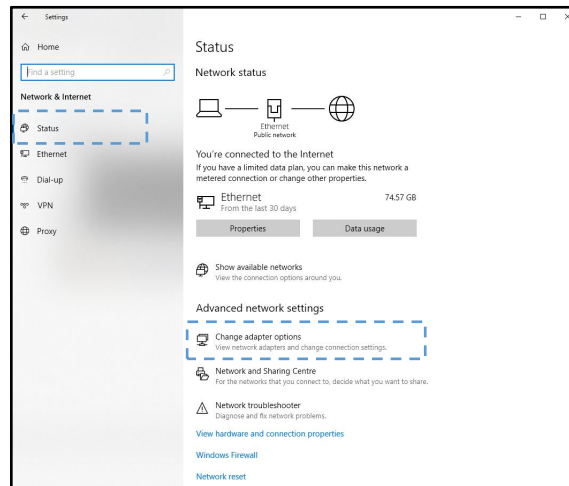

Figure 5-3 Network Status
Step 2: In the "Network Status" window (Figure 5-3), select "Change Adapter Options" in the advanced network settings;